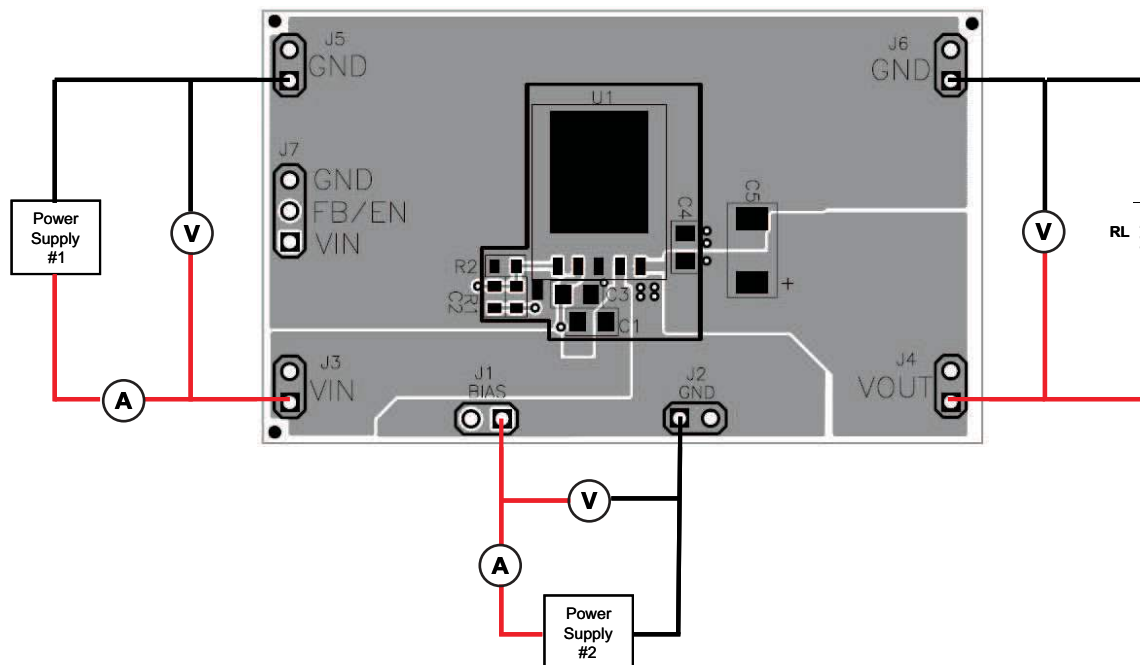

Figure 2. Quick Start Connection Setup
1. Connect power supply #1 to  $V_{IN}$  (J3) and its return connection to J5 as shown in Figure 2.  $V_{IN}$  should be at least 300mV (or  $V_{DO}$ ) greater than  $V_{OUT}$ , up to 5.5V.
2. Connect power supply #2 to  $V_{BIAS}$  (J1) and its return connection to J2 as shown in Figure 2.  $V_{BIAS}$  must be between 3.0V and 5.5V.